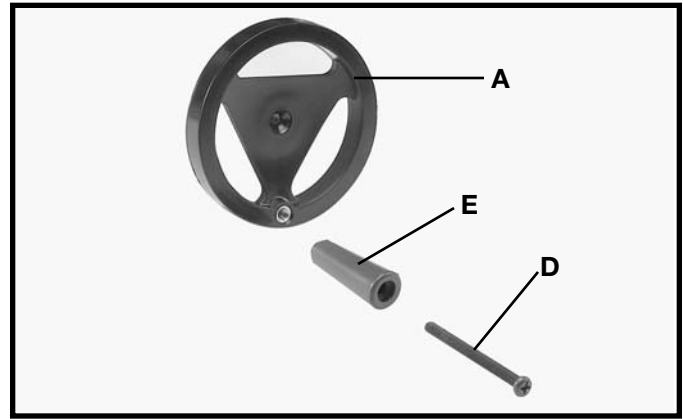

Fig. 3A
1. Insert M6 x 55 screw (9) Fig. 2A, through handle (E) Fig. 3A, and assemble handle (E) to handwheel (A) by threading screw (D) clockwise into handwheel.